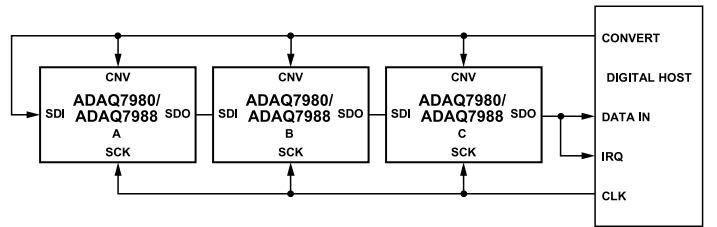
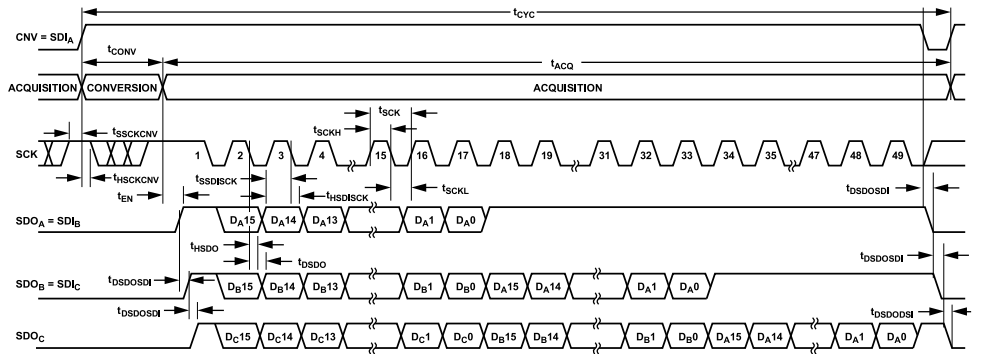

Figure 81. Chain Mode with the Busy Indicator Connection Diagram
Figure 82. Chain Mode with Busy Indicator Serial Interface Timing
- ▶ In chain mode if SCK is high during the CNV rising edge (see Figure 82).
Figure 81 shows a connection diagram example using three ADAQ7980/ADAQ7988 devices, and Figure 82 shows the corresponding timing.
their conversions, drive the SDO pin of the ADC closest to the digital host (see the ADAQ7980/ADAQ7988 ADC labeled C in Figure 81) high. Use this transition on SDO as a busy indicator to trigger the data readback controlled by the digital host. The ADAQ7980/ADAQ7988 then enter the acquisition phase and power down. The data bits stored in the internal shift register clock out, MSB first, by subsequent SCK falling edges. For each ADC, SDI feeds the input of the internal shift register and clocks out by the SCK falling edge. Each ADC in the chain outputs its data MSB first, and $16 \times N + 1$ clocks are required to read back the N ADCs. Although the rising edge can capture the data, a digital host using the SCK falling edge allows a faster reading rate and, consequently, more ADAQ7980/ADAQ7988 devices in the chain, if the digital host has an acceptable hold time.